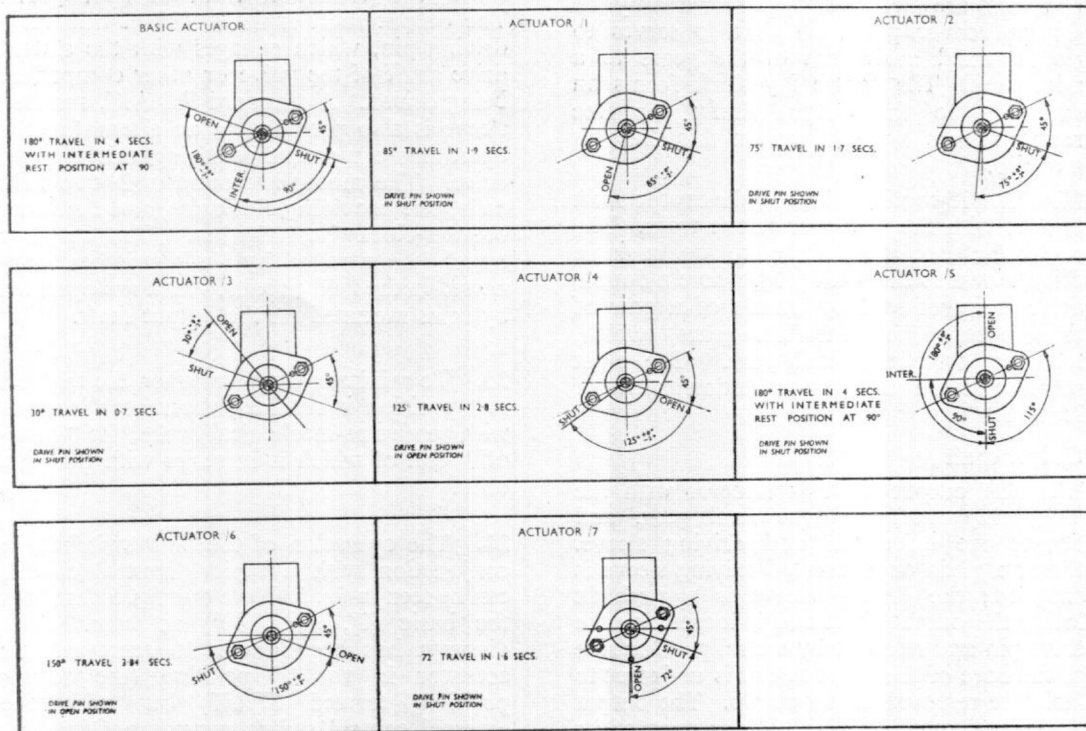

Fig. 3. Actuator variants, allocation of stroke numbers
12. The cams and the cam sleeve are retained on the output shaft by a washer and a circlip. Both cams and the sleeve are engraved with index marks, which are used in conjunction with marks on the output shaft and the actuator body to set the required travel (fig. 3).
variants are identified by suffix numbers, viz., /1 for 0° to 85° travel, /2 for 0° to 75° travel, etc. (see fig. 3).